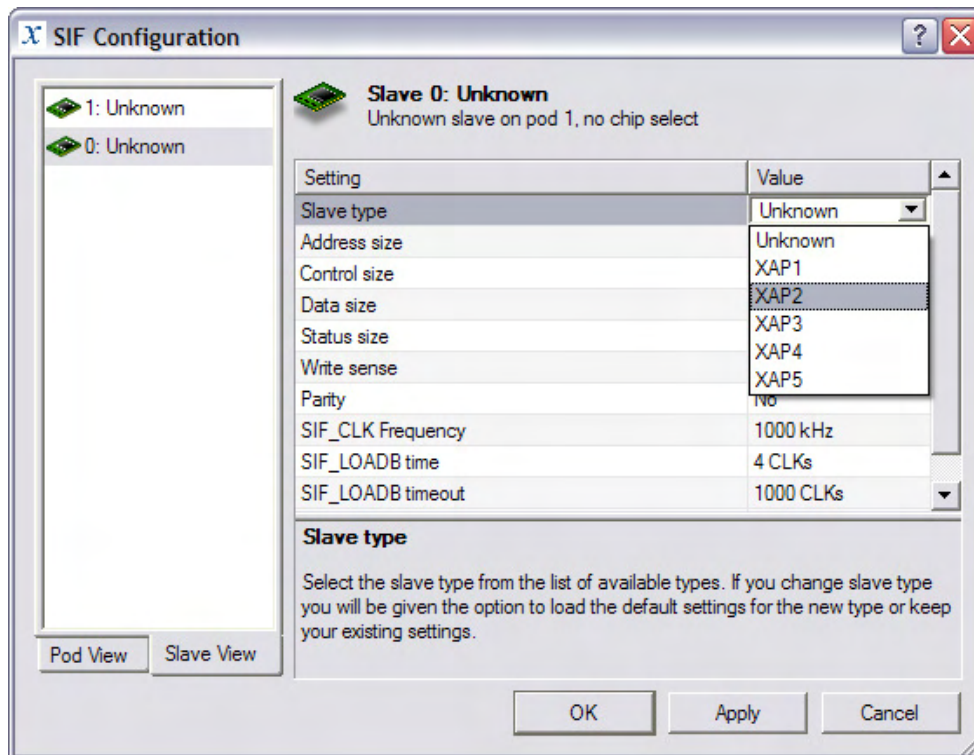

Figure 7. SIF Configuration dialog
4. Set **Slave type** to **XAP2** (see Figure 7).